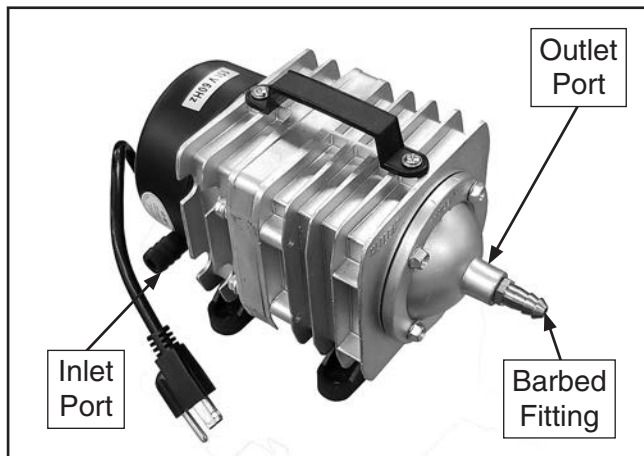

Figure 22. Air pump components.
1. Thread barbed fitting into air pump outlet port (see **Figure 22**) and tighten.